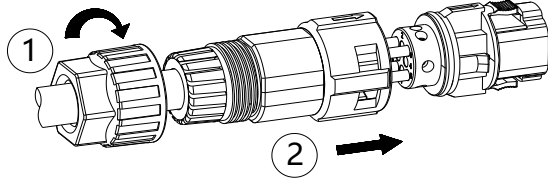

FIG.5-8 Assembling the Connector
4) Tighten the pressure nut, and then push the threaded sleeve into the plug, as per FIG.5-8.